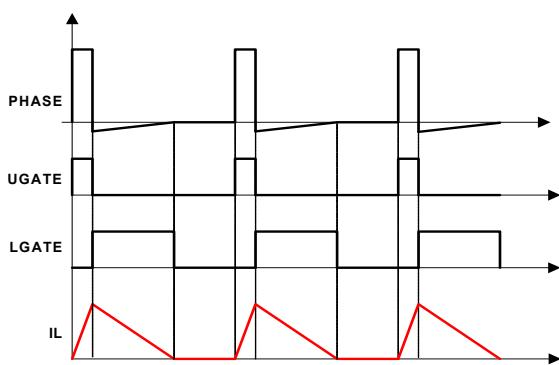

FIGURE 28. DIODE EMULATION
The R3 modulator can operate in Diode Emulation (DE) mode to increase light-load efficiency. In DE mode the low-side MOSFET conducts when the current is flowing from source-to-drain and does not allow reverse current, emulating a diode. As shown in Figure 28, when LGATE is on, the low-side MOSFET carries current, creating negative voltage on the phase node due to the voltage drop across the ON-resistance. The IC monitors the current by monitoring the phase node voltage. It turns off LGATE when the phase node voltage reaches zero to prevent the inductor current from reversing the direction and creating unnecessary power loss.
If the load current is light enough, as Figure 28 on page 32 shows, the inductor current will reach and stay at zero before the next phase node pulse and the regulator is in Discontinuous Conduction Mode (DCM). If the load current is heavy enough, the inductor current will never reach OA and the regulator is in CCM although the controller is in DE mode.